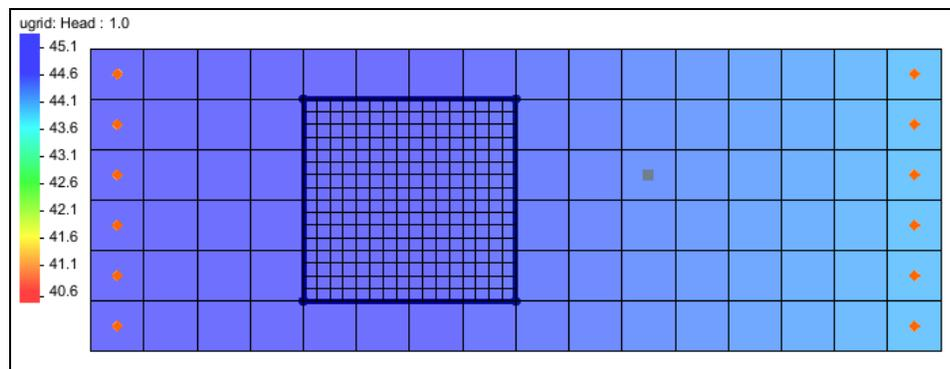

Figure 2 Arcs drawn around refined around of the UGrid
10. Using the **Create Arcs** tool, create four arcs around the refined area of the UGrid as in Figure 2 below.